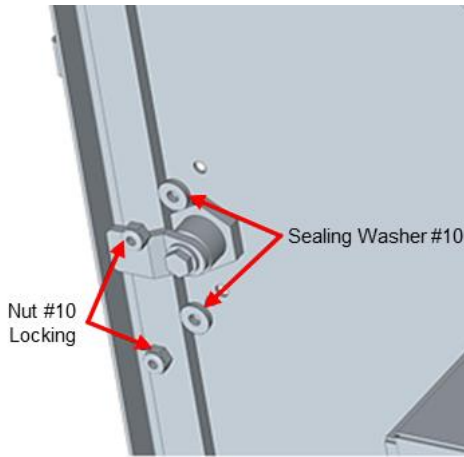

Figure 4: Securing of the Padlock Adapter
2. Secure the Padlock adapter to the door using washers and screws as shown in Figure 4.